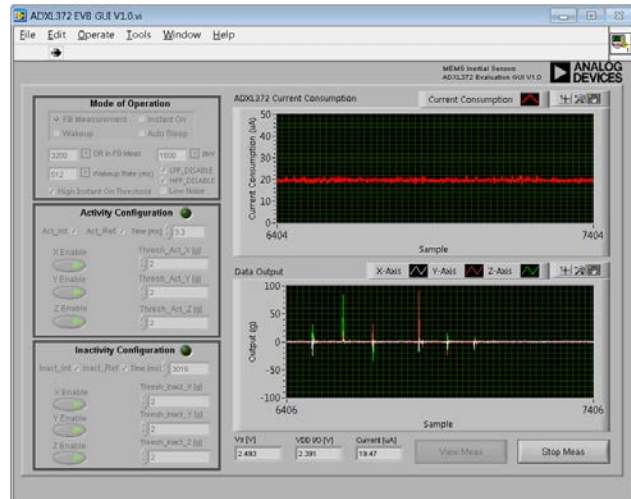

Figure 15. Power Consumption Tab
- **Activity and Inactivity Configuration** options are enabled when autosleep mode and full bandwidth mode are selected. In autosleep mode, the **Activity Interrupt Configuration** options (shown in Figure 15) adjust the settings that determine the level of activity and the length of time required to wake the device from sleep mode. The
Inactivity Interrupt Configuration options (shown in Figure 15) adjust the settings that control the level of inactivity and how much time is required to put the device into sleep mode. For example, the ADXL372 transitions from activity to inactivity mode when the ADXL372 remains stable for a long enough time. When the ADXL372 enters inactivity mode, the ADXL372 continues to operate while in sleep mode or while in the low speed sampling rate mode.